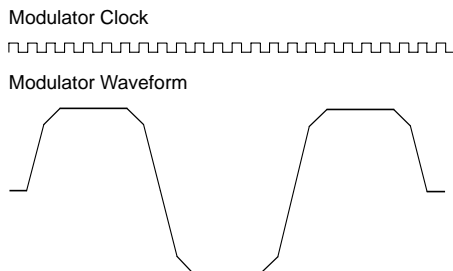
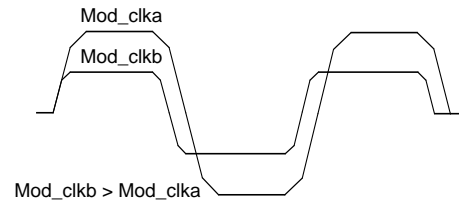

Figure 19. Modulator Waveform and Clock
Figure 20. Two Different Modulator Clock Setting
The modulator waveform is created by charging and discharging a capacitor. A modulator clock controls the timing, as shown in Figure 19. For every rise-and fall edge, 4 clock periods are being used. The charging current during these 4 clock periods are not equal, this is to reduce the high frequency components in the waveform, which in turn will narrow the frequency spectrum.
where $f_{\text{MOD_CLK}}$ is the modulator clock shown in Figure 19, f_{XCO} is the crystal oscillator frequency. Refclk_K is a 6 bit number and Mod_clkS is a 3 bit number. Mod_clkS can be set to a value between 0 and 7. The modulator clock frequency should be set according to the bit rate and shaping.
A $f_{\text{MOD_CLK}}$ of 8 times the bit rate (as in Figure 20) corresponds to a signal filtered in a Gaussian filter with a Bandwidth Period product (BT) of 1. When BT is increased, the waveform will be less filtered. Minimum BT is 1 ($f_{\text{MOD_CLK}}$ is 8 times the bitrate). Figure 20 shows two waveforms with BT=1 and BT=2, i.e. the $f_{\text{MOD_CLK}}$ is 8 and 16 times higher than the bit rate. When changing the BT factor, the charge-and discharge times will also be changed, and therefore the frequency deviation, as shown in Figure 19.